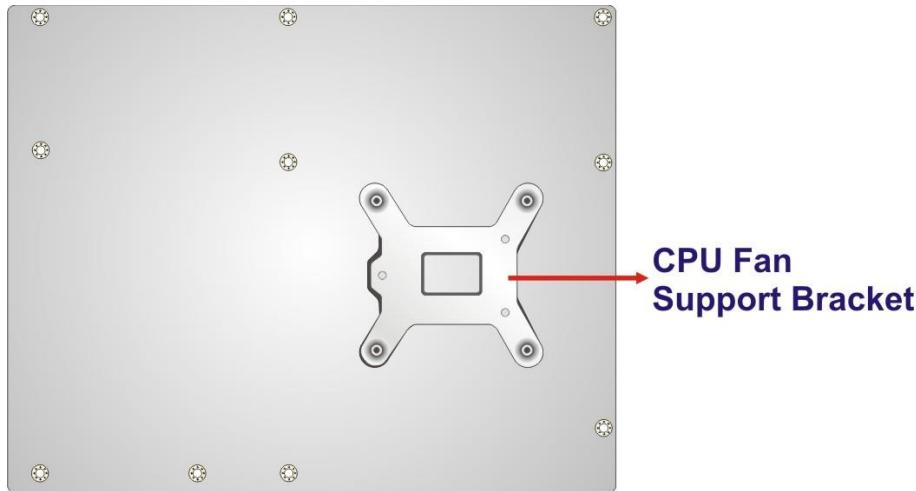

Figure 4-7: Cooling Kit Support Bracket
Step 1: A cooling kit bracket is pre-installed on the rear of the motherboard. See **Figure 4-7.**